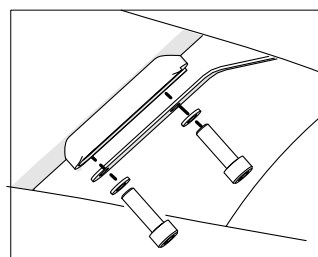

Figure 6
2. Using a 5 mm hex key, remove the two bolts holding the brake pad against the frame (Figure 6).